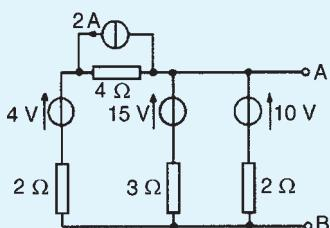

Figure 13.79
4. Determine, by successive conversions between Thévenin and Norton equivalent networks, a Thévenin equivalent circuit for terminals AB of Fig. 13.79. Hence determine the current flowing in a  $6\Omega$  resistor connected between A and B.